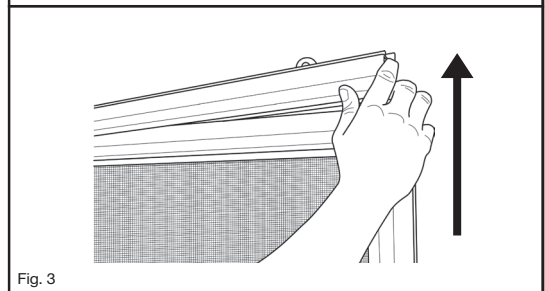

Fig. 3
- 3 Remove TOP expander** by turning the expander adjustment screws counter-clockwise until top expander can be removed (Fig. 3).